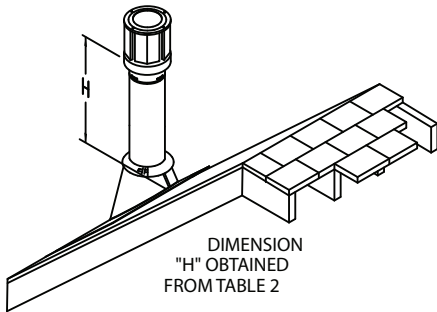

Figure 17
Step 8. Continue to add Pipe Sections until the height of the system (before adding the Cap) meets the minimum building code requirements as described in (Table 3 and Fig. 17). Note that for steep roof pitches, the vent height must be increased. In high wind conditions, nearby trees, adjoining rooflines, steep pitched roofs, and other similar factors can result in poor draft, or down drafting. In these cases, increasing the vent height or switching to the High Wind Termination Cap may help to solve the problem.